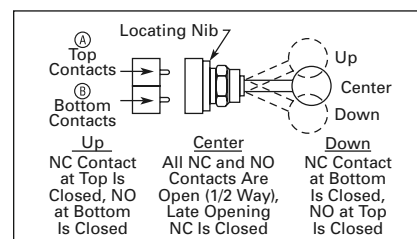

Figure 47-97. A and B Mounting Location
⑤ Bolded circuit corresponds to "X-O" circuit selection. X = closed circuit, O = open circuit.
⑥ See Figure 47-97 for "A" and "B" mounting location.
⑦ NO = Normally Open, NC = Normally Closed, LONC = Late Opening Normally Closed.
⑧ Four circuits in single block depth — rated 300V max.